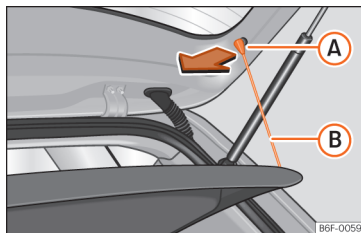

Fig. 109 In the luggage compartment: removing and fitting the shelf.
- Detach the cord loops »»» **Fig. 109 (B)** from their hooks **(A)**.
- Hook the loops »»» **Fig. 109 (B)** to the rear lid.